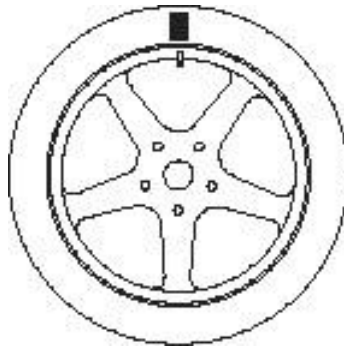

Fig. F5.4 - Marking of the valve position on the tire
3. Bring the valve to the 12 o'clock position, mark the valve position on the tire (see figure F5.4);
8. Rotate the wheel until all position arrow LEDs light up and then mark the 12 o'clock position as shown in figure F5.4;